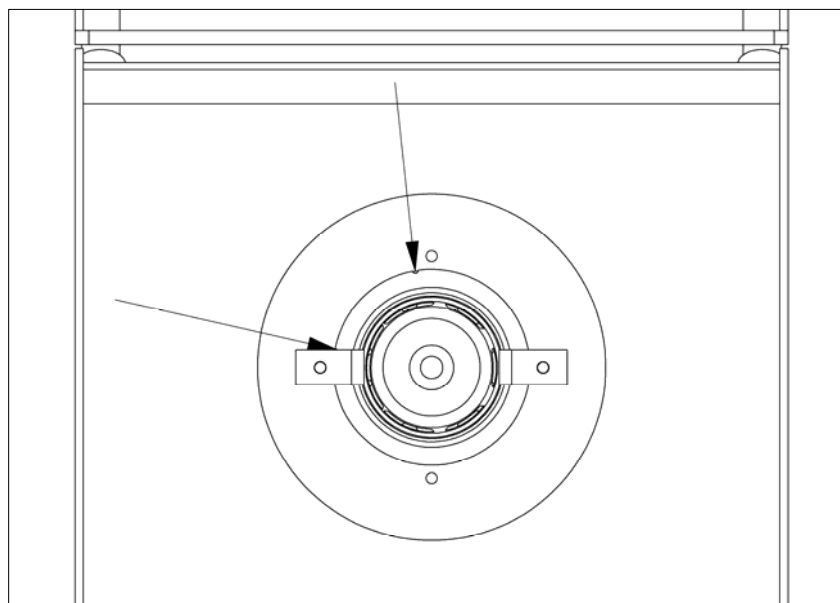

Fig. 7.2
- If the blast wheel is turning counter-clockwise, set the upper notch of the control cage to imaginary 11.30 of a dial (fig. 7.2).